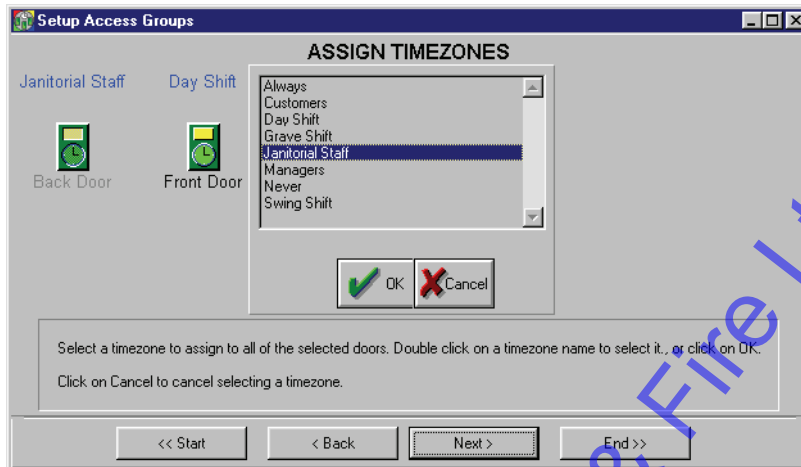

Figure 3-45: Changing Time Zones to Doors in the Access Group
- Click on the **Front Door** icon. A small, time zone list window will appear in the middle of the Assign Timezones window (see Figure 3-45).